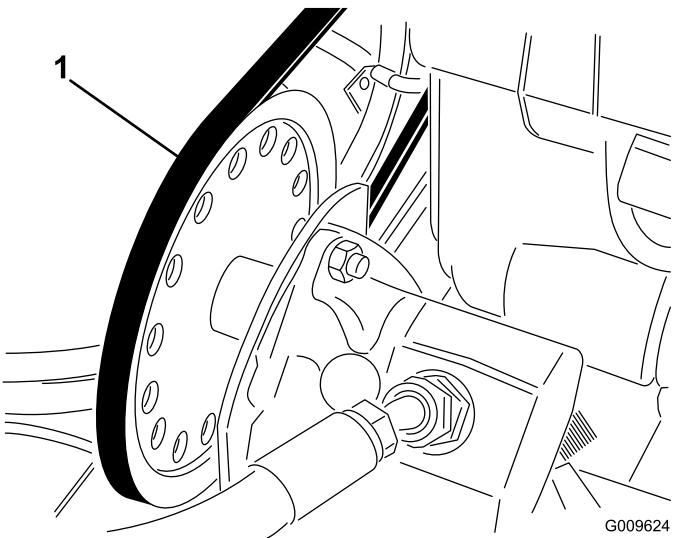

Figure 55
- A. Loosen the nuts securing the hydraulic pump to the engine frame (Figure 55).